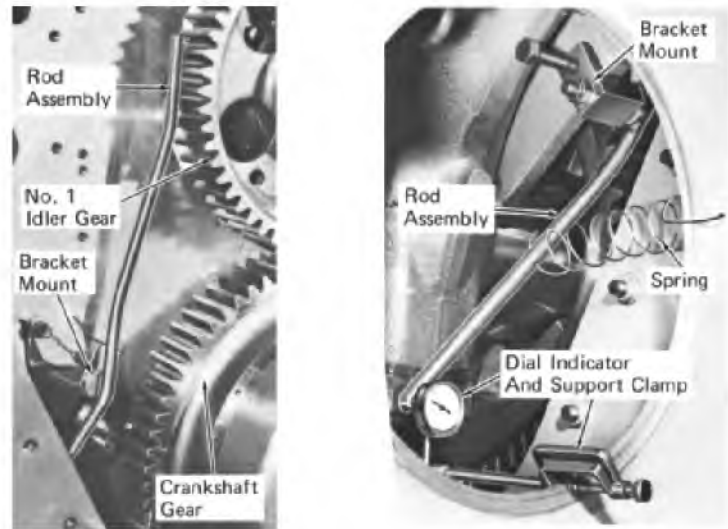

Fig. 7-4 - Application Of Parts For Checking Bearing Clearance
2. Position the rod so that the bracket mount straddles the crankcase endplate, and the top of the rod contacts the side of the No. 1 idler gear, Fig. 7-4. Hand tighten the bracket bolt.
3. Apply the light tension spring between the lower part of the rod and the edge of the handhole opening, Fig. 7-4, to maintain idler gear to rod contact.
4. Secure the support clamp of a dial indicator to the edge of the handhole opening. Position the indicator plunger so that it contacts the flattened side of the rod, Fig. 7-4.